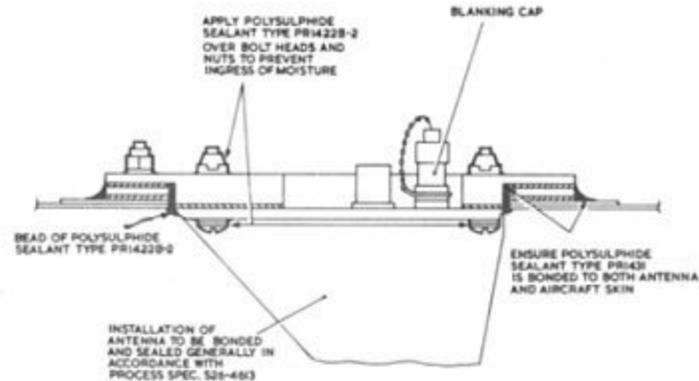

Fig.2 Sealing of Aerial, Type 10-222-8
25. In order to prevent ingress of moisture the aerial must be bonded and sealed. The following instructions, together with illustration fig.2, briefly describe the method to be used but reference should be made to HSA process spec. S26-4613.